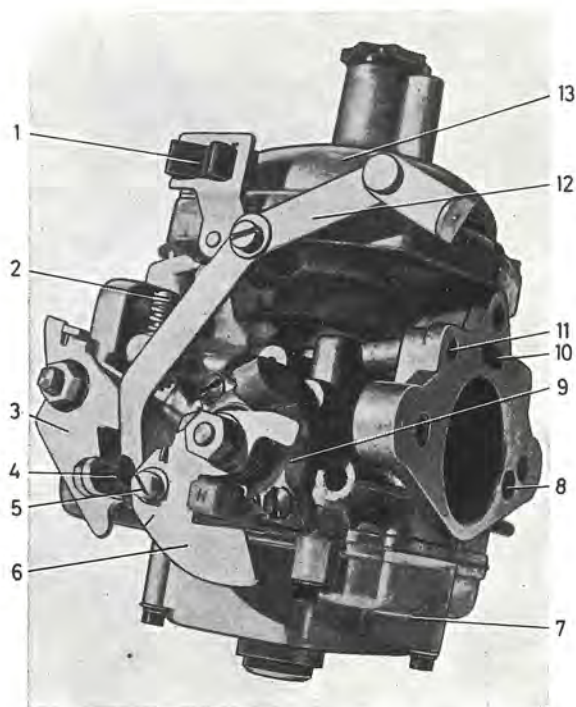
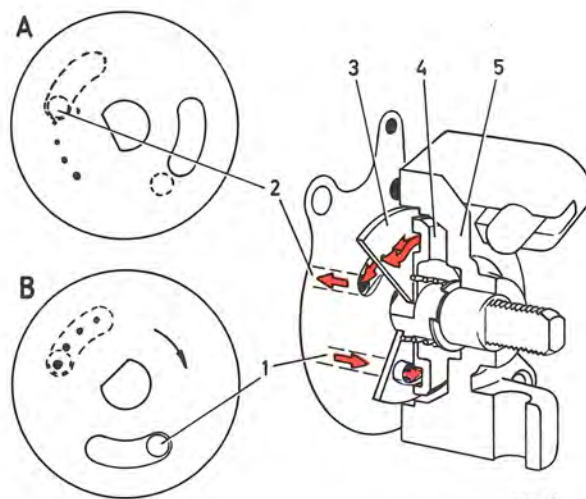

Fig. 2-59. Carburetor, rear, from the left
Fig. 2-61. Cold start device
To facilitate starting during cold weather, the rear carburetor is fitted with a cold start device (Figs. 2-59 2-61 and 2-62).
The cold start device consists of a valve disc (3, Fig. 2-61) which is provided with four calibrated holes and an elongated opening as well as a disc (4) mounted on a spindle which is operated by the choke control. On the same spindle, outside the housing (5), there is a cam disc (6, Fig. 2-59) with connection for the choke control pull wire. When the cold start device is engaged, the valve disc turns and this links up the channel (1, Fig. 2-61) from the floatchamber via one or several of the calibrated holes to the channel behind the valve disc and then the opening to the channel which terminates in the venturi (2), between the vacuum plunger and choke flap. Through this link-up, the engine receives extra fuel (a richer mixture), to facilitate cold starting. At the same time, less air is supplied by means of the choke device. When the choke control is pushed in, the valve disc
turns and closes the inlet to the channel. At the same time as the cam disc is operated, the throttle flap opening is also influenced in such a way that turning the cam disc opens the throttle through the fast idle stop screw (4, Fig. 2-59) and the lever, before any of the calibrated holes open the connection to the fuel drilling. With this arrangement, the idling speed can if necessary be raised by the driver of the vehicle during the warming-up period of the engine.